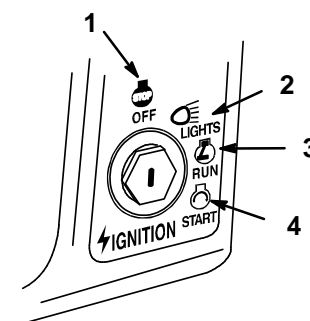

Figure 5
6. Turn the ignition key clockwise and hold it in the “START” position (Fig. 5). When the engine starts, release the key.
2. Turn the ignition key to “OFF” (Fig. 5).